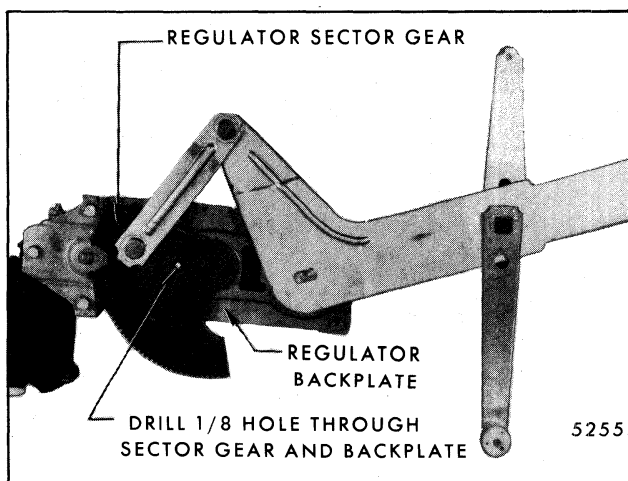

Fig. 6-46-Window Regulator Motor Removal
2. Drill a 1/8" hole through regulator back plate and sector gear (Fig. 6-46). DO NOT drill hole closer than 1/2" to edge of sector gear or back plate.